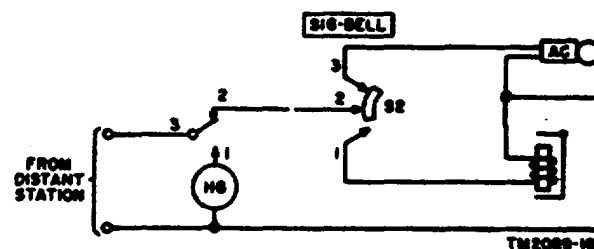

Figure 12. Signaling circuit, incoming, simplified schematic diagram.
41. Signaling Circuit (fig. 12)